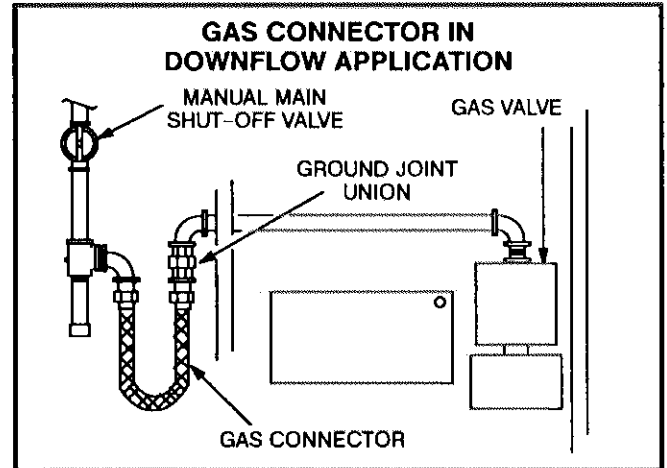

FIGURE 4
- 1- Turn off electrical power to furnace. See figure 4.